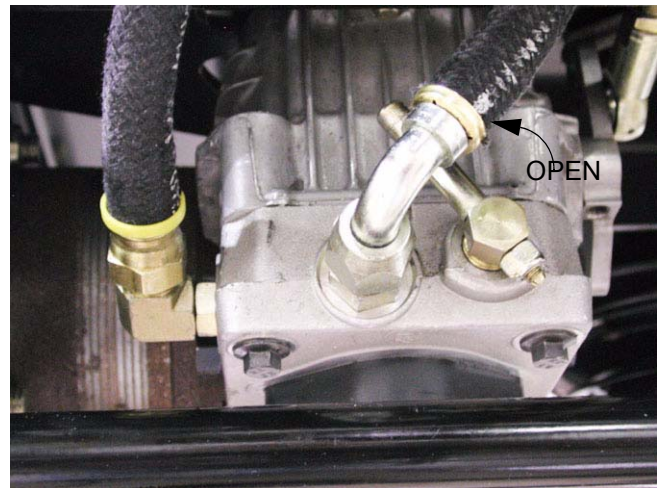

Figure 6.7
- 6.7. Open the relief valve on the hydro pump. This will relieve any residual hydraulic pressure. See Figure 6.7.